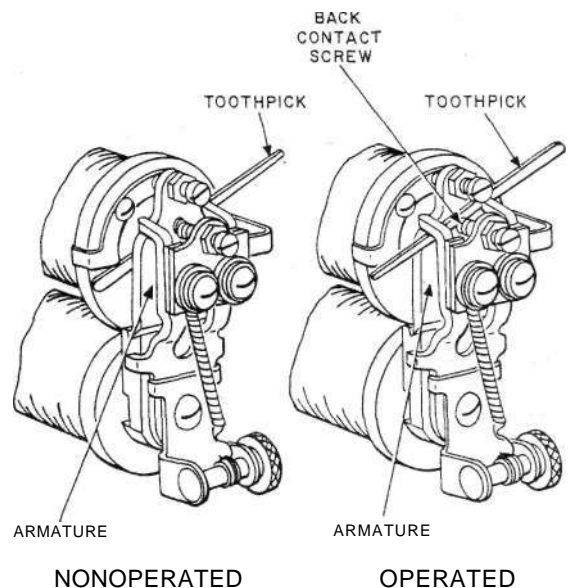

Fig. 19—Blocking 190-Type Relays
3.16 **190-Type Relays:** Fig. 19—Block relays nonoperated by inserting the flat end of a toothpick between the armature and the core. Block relays operated by inserting a toothpick between the armature and the back contact screw.